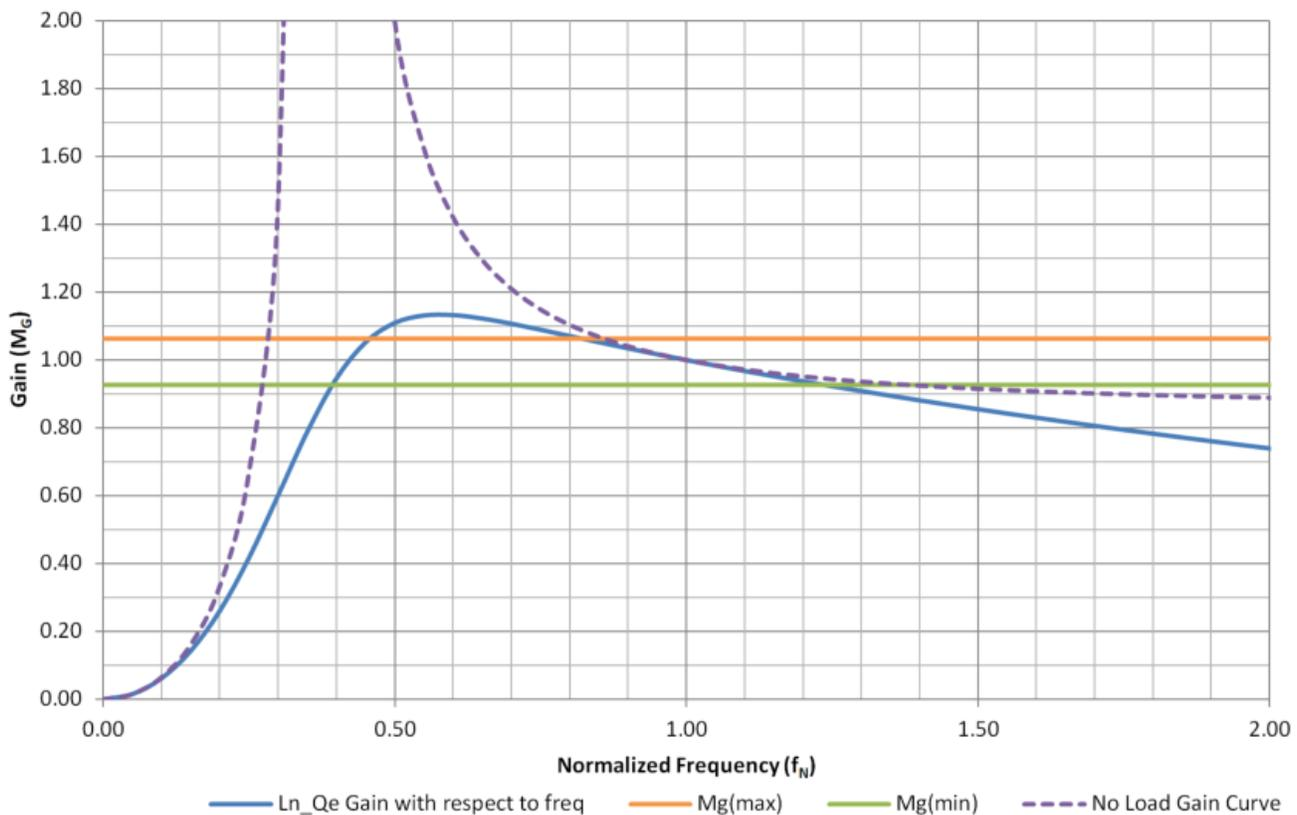

Figure 2. This gain curve is shaped for the LLC-SRC design.
Like any LLC-SRC, shaping the gain curve is an iterative process. Trying to hit certain operating frequencies, resonant currents and voltages and balancing the design between a peak and continuous power level is a challenge. As you go through the calculations, you will need to adjust the magnetizing inductance, resonant inductance, turns ratio and resonant capacitance. 100 kHz is a common resonant frequency target for silicon-based designs. For audio applications it makes sense to target 100 kHz for the continuous power operating point. Figure 2 shows a gain curve shaped for the above example. The operating frequency range is 83–139 kHz.
2. Disable burst mode: In standby, the converter will need to regulate the output with standard switching operation. This decreases light load efficiency, but can reduce complexity and further eliminates any audible noise concerns, such as the effect of the secondary side rectifier parasitics on the gain curve. Figure 2 shows how the gain curve will actually start to rise at higher frequencies. The supply will lose regulation if the minimum gain cannot be reached.